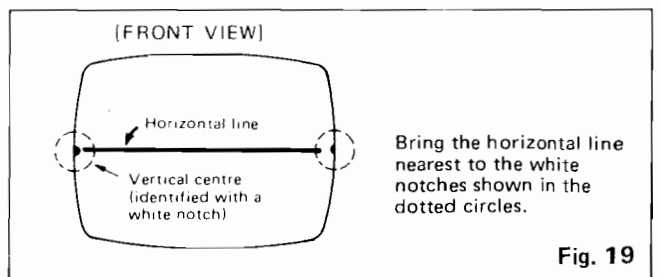

Fig. 19
5. Check the vertical center position by displaying a horizontal line. Unless correct, bring it to the center by rotating the two tabs, kept at an angle, together in either direction. (Fig. 19, 20)